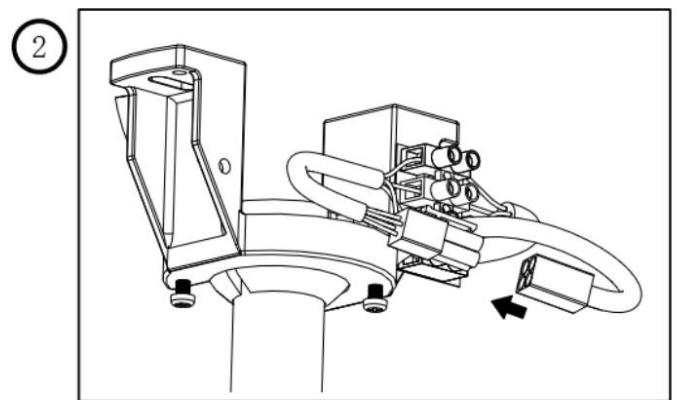
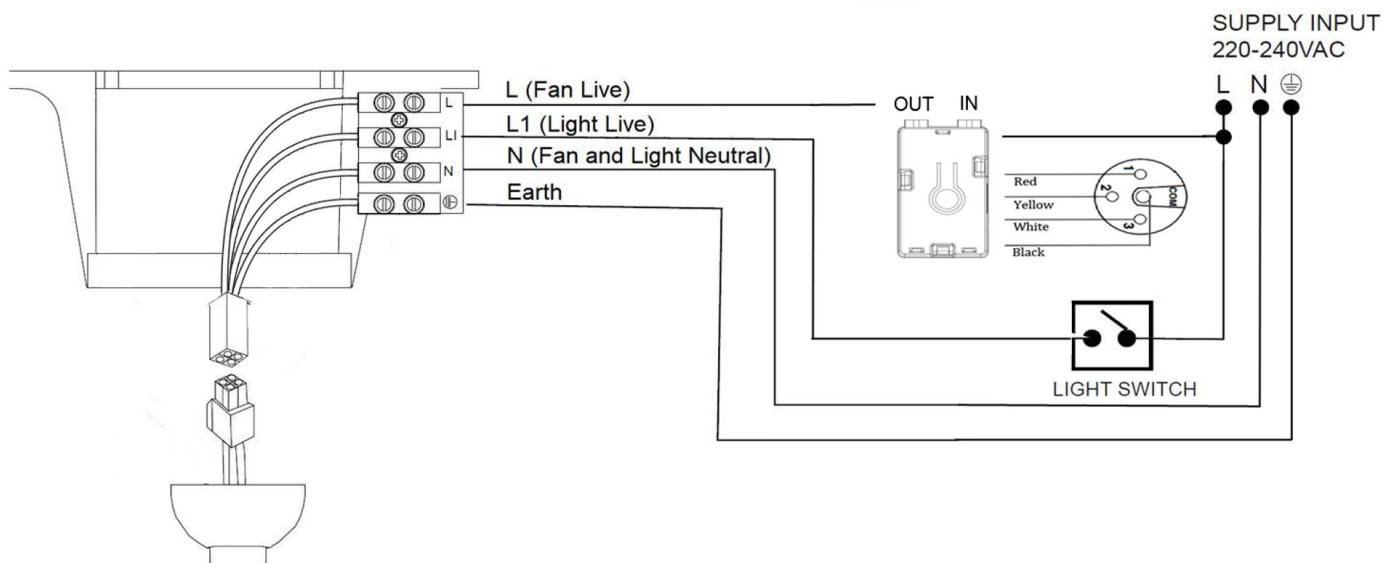

Fig. 5.2
Fig. 6
2. Connect the wiring (Fig.5.2 & Refer to the wiring diagram in Fig.6 for more information)
WIRING DIAGRAM (FIG. 6)